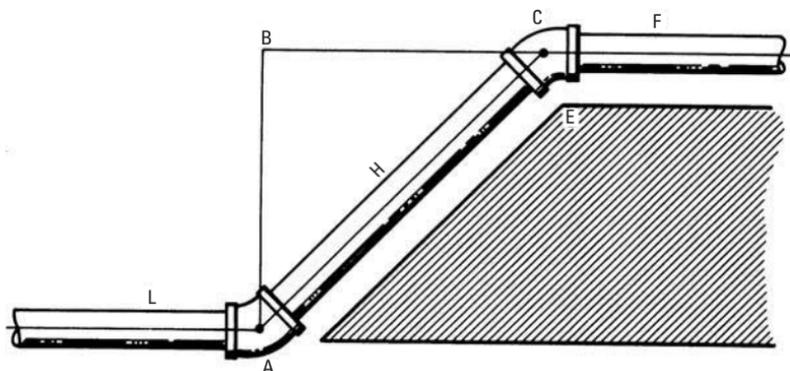

Figure 8-8 Pipeline connected with two 45° elbows illustrating offsets and method of finding length of connecting pipe H.
An example of an offset is illustrated in Figure 8-8. As shown here, the problem is an obstruction (E), such as a wall, blocking the path of a pipeline (L). It is necessary to change the position of pipeline L at point A to some parallel position such as line F in order to move around the obstruction. When two lines such as L and F are to be piped with elbows other than 90° elbows, the pipe fitter is confronted with the following two problems: (1) finding the length of pipe H and (2) determining the distance BC . By determining the distance BC , the pipe fitter will be able to fix point A so that the two elbows A and C will be in alignment.
If, in Figure 8-8, the distance between pipelines L and F is 20 inches (offset AB), what length of pipe H is required to connect with the 45° elbows A and C ?
Figure 8-8 illustrates the difference between the calculated length (that is, the measurement from point A to point C) and the actual length of connecting pipe H when used with elbows other than 90°. *Actual length* is obtained by deducting the *allowance for projection of the elbows* from the *calculated length*.